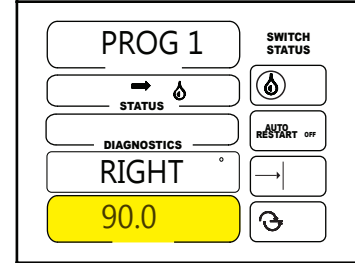

Figure 58-1
4. Set the right angle of the sector. See figure 58-1.